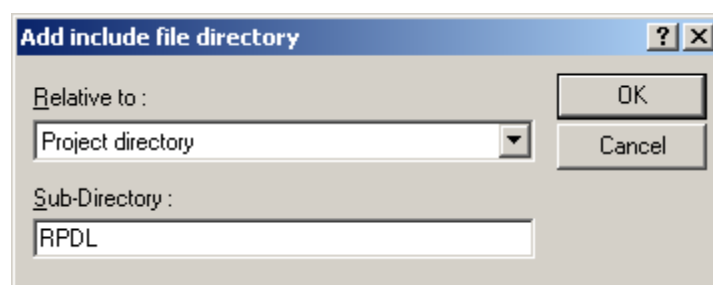

Figure 2-5 : Include the RPDL folder
- Step 2.20** In the window that comes up change the “Relative to” drop down to “Project directory” and for the “Sub-Directory” entry use “RPDL”. Your window should look like Figure 2-5. Click “OK”.